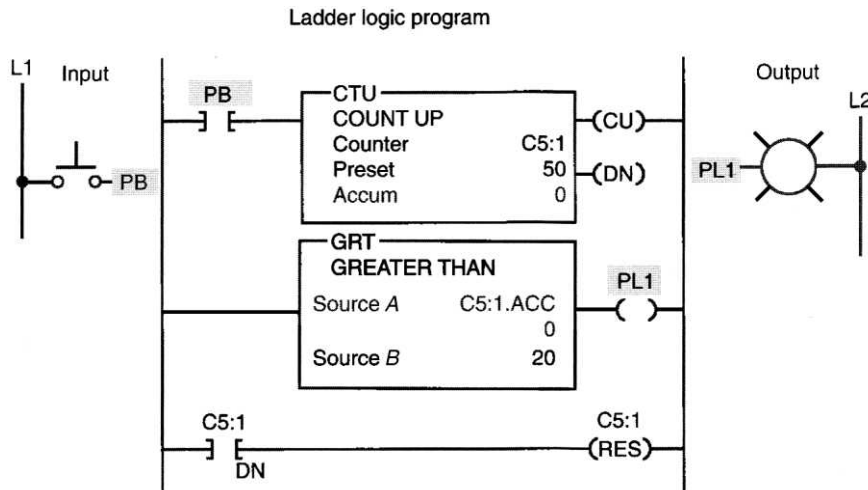

Figure 10-31
7) Construct the counter program shown in Figure 10-31 using your PLC demonstration panel. After constructing the program on paper, enter it into the PLC. Demonstrate that the output will be energized when the counter's accumulated value is from 21 to 50 and that the counter will reset automatically when it reaches its preset value of 50.